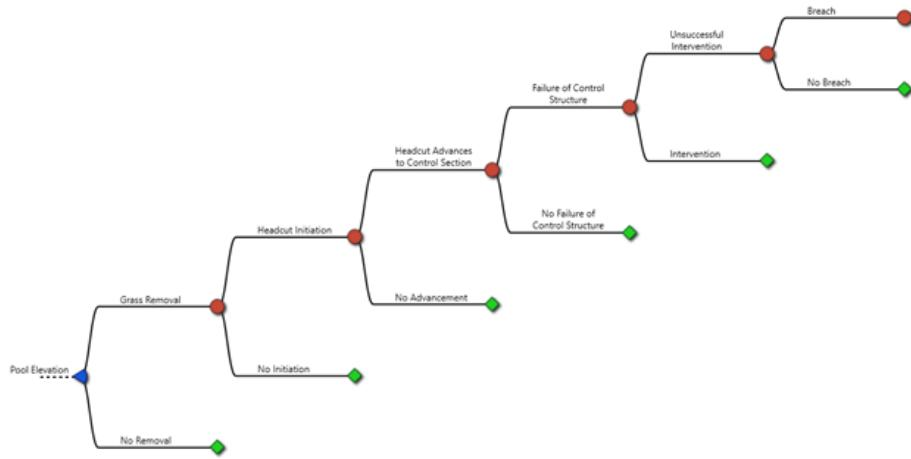

Figure 8.8: Completed spillway erosion event tree.
5. **Complete the event tree.** Continue adding nodes and defining their properties until the event tree is fully developed (Figure 8.8).